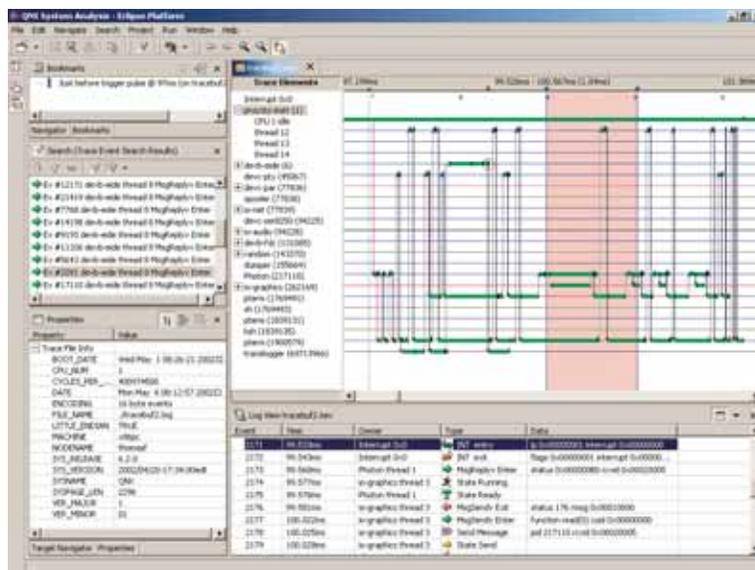

Figure 3 – Diagnostic tools like the system profiler help optimize performance.
- The system profiler performs trace analysis to revolve timing conflicts, pinpoint deadlocks, root out logic flaws, detect hidden faults, and optimize system-level performance. For an example of the system profiler in action, see Figure 3.